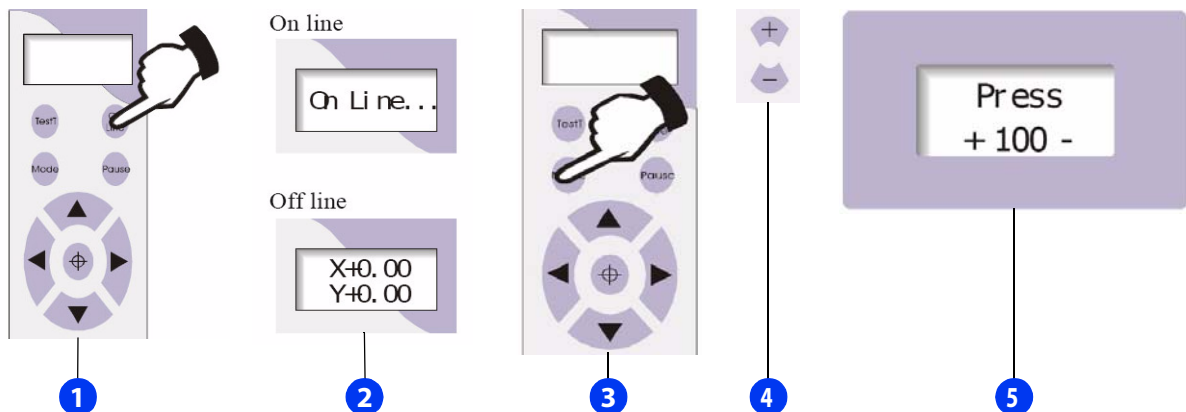

Figure 35
Pressure is the force that presses the blade through the material. You must increase the pressure setting as the thickness and density of the material increases. Use the procedure that follows and see figure 35.
- 1 Press the **On Line** button to take the machine off line. (See figure 35, 1, 2)
- 4 After you have selected a pressure setting, press the **Pause** button to return to the **Off line** screen. (2)
- 5 Press the **On Line** button put the machine online so it is ready to cut. (1)